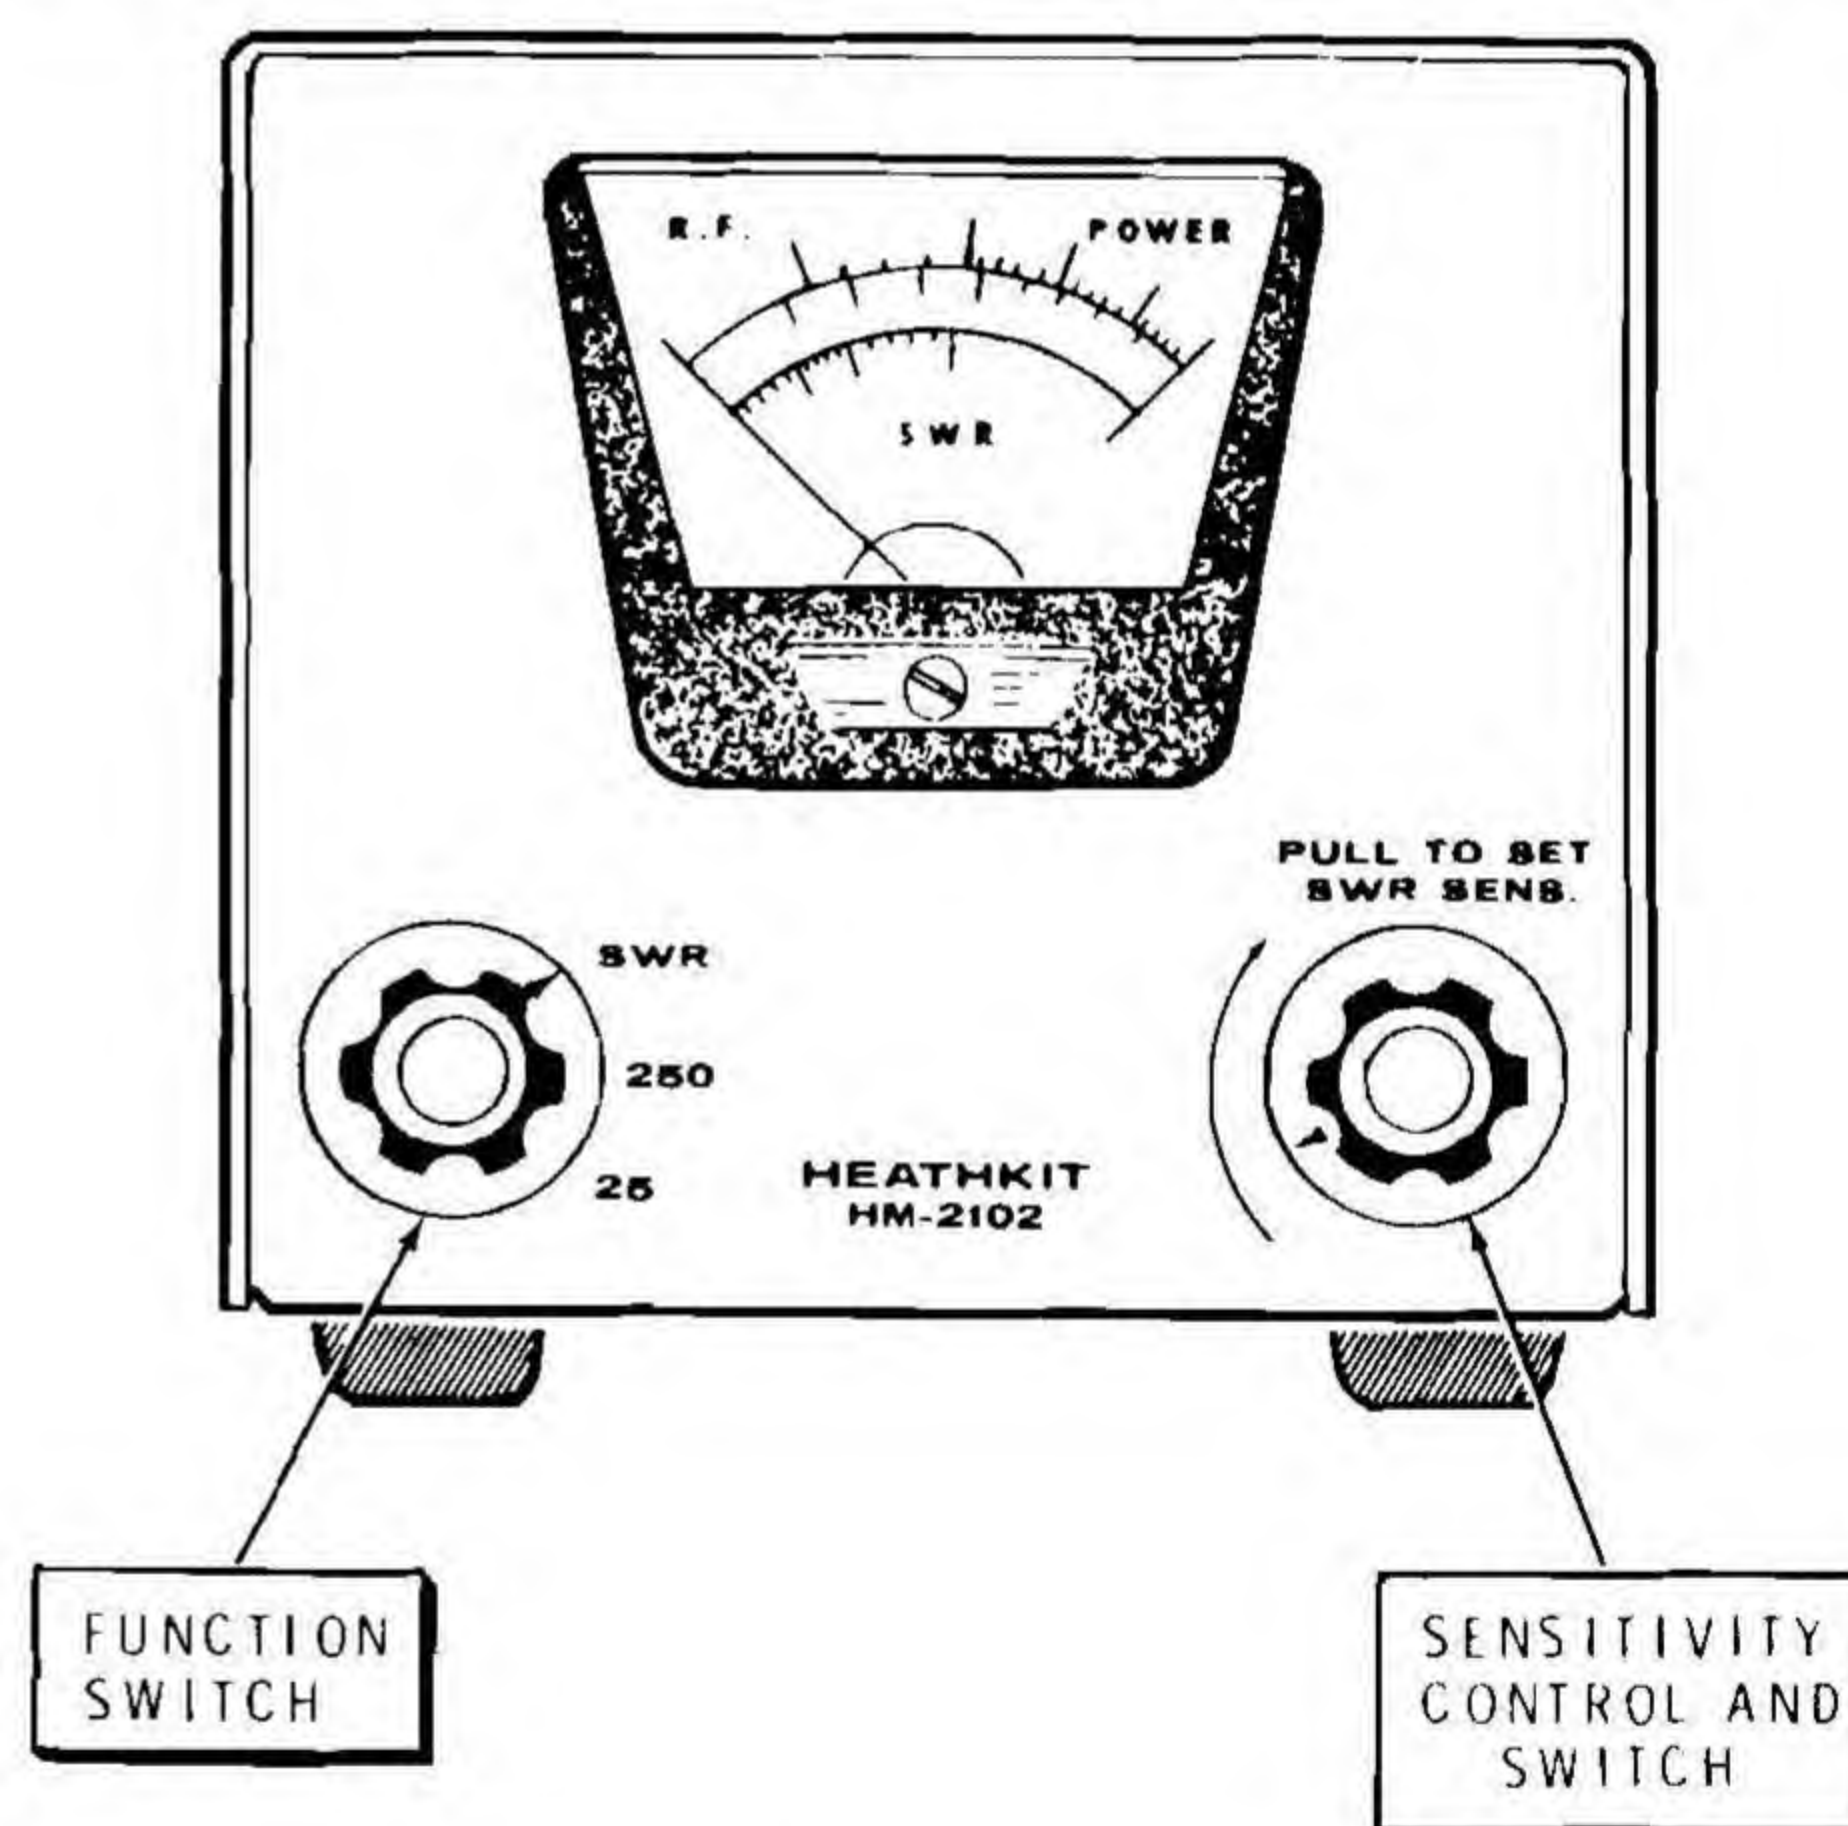

Figure 2
- () Set the FUNCTION switch to 25 (see Figure 2).